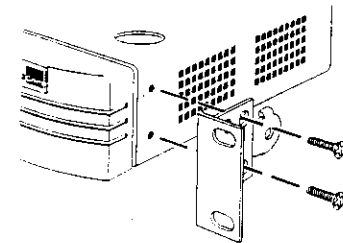

Figure 3 Rack Mounting
- 2 Locate a mounting bracket over the mounting holes on one side of the unit, as shown in Figure 3 below.